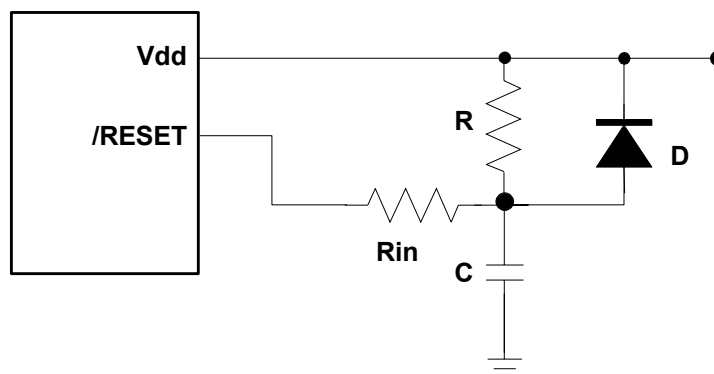

Figure 6-37 External Power-up Reset Circuit
The circuit shown in Figure 6-37 uses an external RC to produce a reset pulse. The pulse width (time constant) should be kept long enough for Vdd to reached minimum operation voltage. This circuit is used when the power supply has slow rise time. Because the current leakage from the /RESET pin is $\pm 5\mu\text{A}$, it is recommended that R should not be greater than 40K. In this way, the /RESET pin voltage is held below 0.2V. The diode (D) functions as a short circuit at the moment of power down.